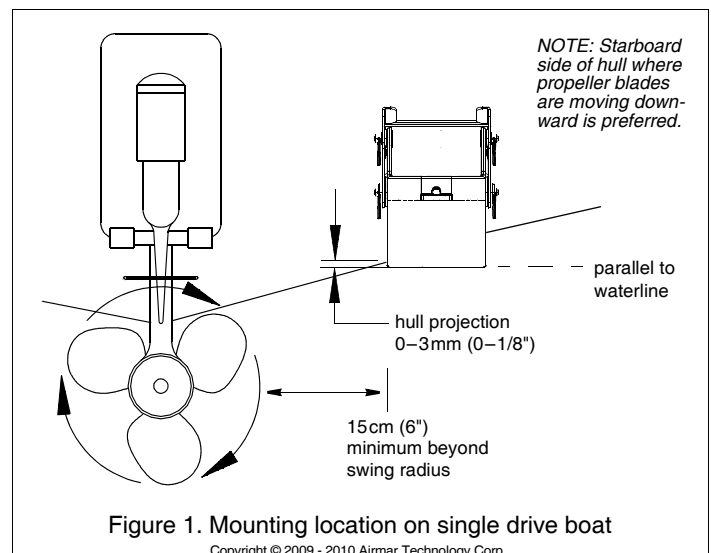

Figure 1. Mounting location on single drive boat
- Mounting on the side of the transom where the propeller blades are moving downward is preferred (see Figure 1).
- **Single drive**—Mount a minimum of 15cm (6") beyond the swing radius of the propeller (see Figure 1).
1. At the selected mounting location, position the assembly so the transducer projects 3mm (1/8") below the bottom edge of the transom (see Figure 1). Be sure any shim(s) is in place. (You may want to tape the shim(s) to the bracket temporarily.) With the transducer in the operational position, mark the bottom corners of the bracket.
5. Using the vertical adjustment space in the bracket slots, slide the assembly up or down until the bottom inside corner of the transducer projections 0–3mm (0–1/8") below the bottom of the hull (see Figure 1). When you are satisfied with the position of the transducer, tighten the four bracket screws. For clear access to the screws, remove the transducer assembly from the bracket (see Figure 4). *When reattaching, be sure to include the spacer.*
- b. Move the transducer deeper into the water in increments of 3mm (1/8") (see Figure 1).